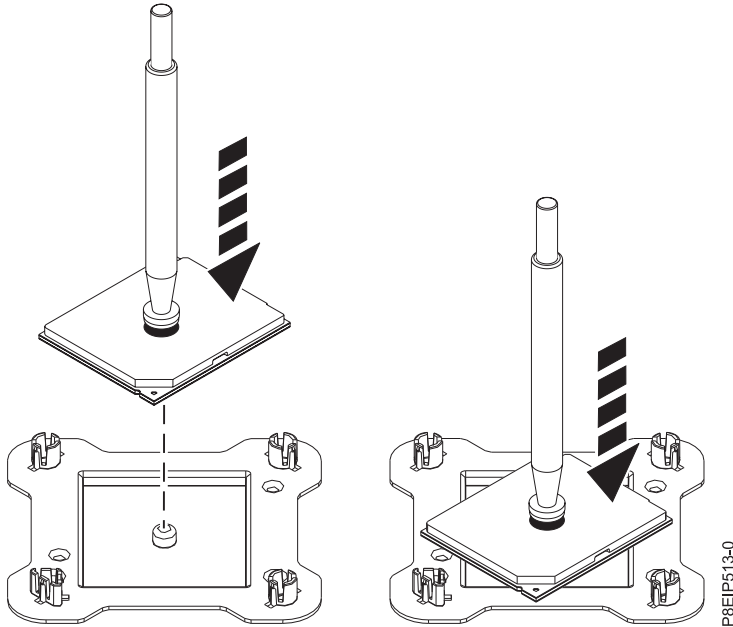

Figure 67. Placing the processor at an angle on the top cover of the packaging
9. Holding the vacuum pen, lift the pen and system processor module from the socket. Place them at an angle on the top cover of the system processor module packaging as shown in Figure 67. Setting the system processor module at an angle on the top cover of the system processor module packaging will make it easier to pick up and place in the packaging after you replace the system processor module.